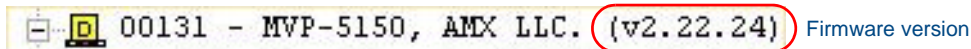

FIG. 3 NetLinx Studio Online Tree - Panel and Firmware information
3. The firmware version loaded on the panel is indicated in parenthesis, immediately after the panel name (FIG. 3).